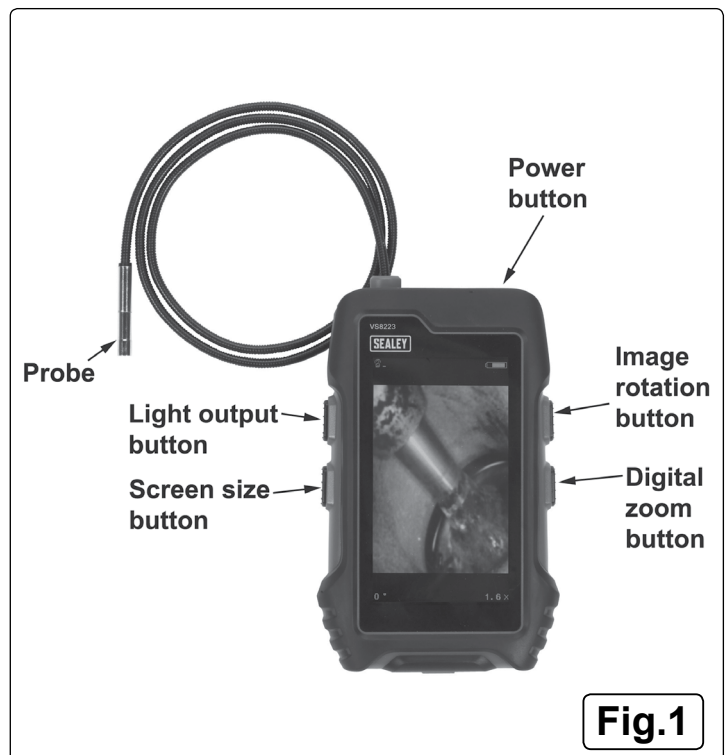

Fig.1
- 5.7. Use the function buttons as described in fig.1 to set light output, screen size, zoom and viewing orientation.